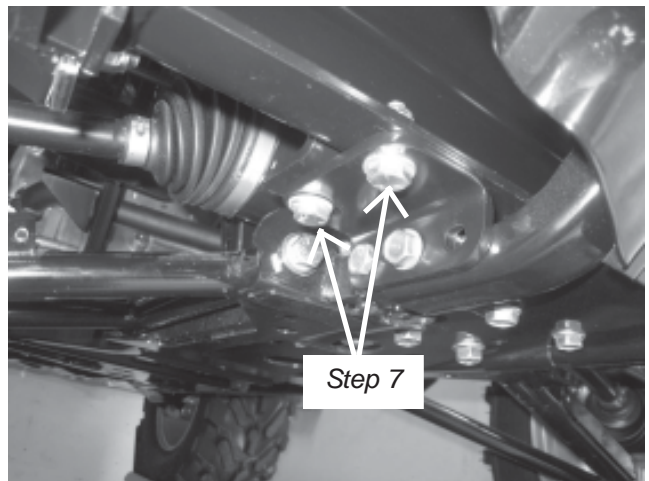

Figure 6
7. Secure Part A to Part B (2X). For each side, place (2) $5/16"$ x 1" bolts with $5/16$ washers through the slotted holes of Part B and through the bottom holes of Part A. Secure with a $5/16"$ washer and a $5/16"$ Nylock Nut, see Figure 6.